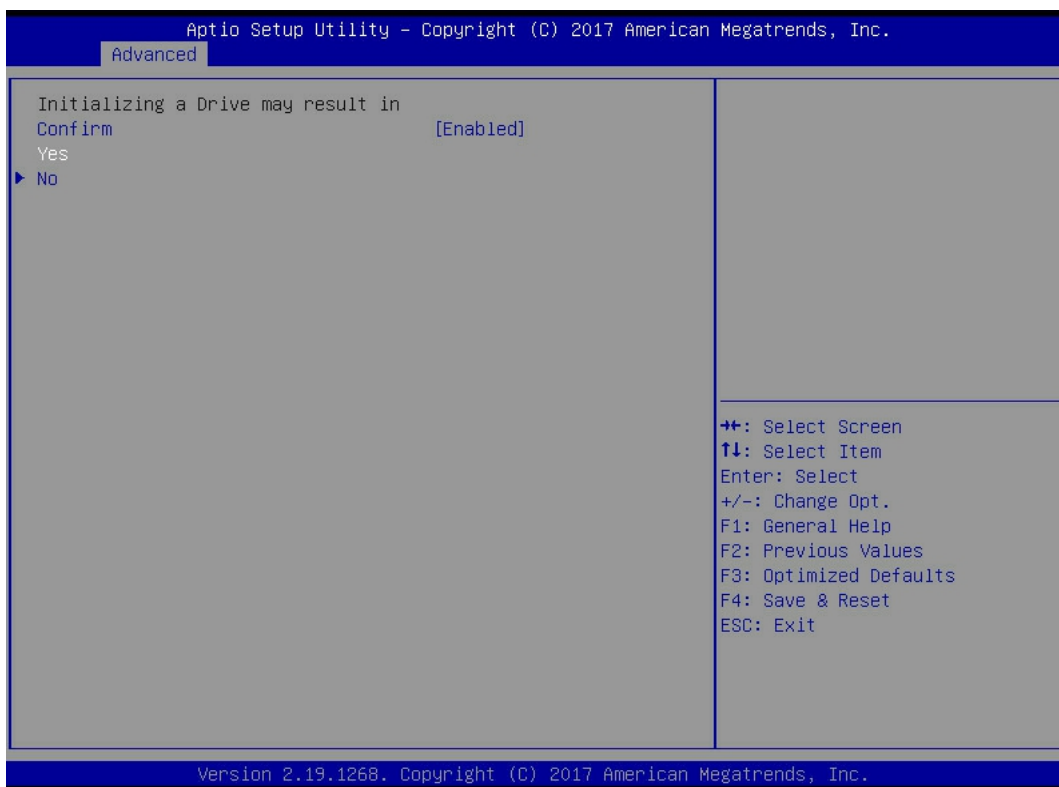

Figure 6-75
e) Enter the interface shown in figure 6-75, select confirm to enable it, select Yes, and press enter.
✧ Figure 6-75 confirm initialization